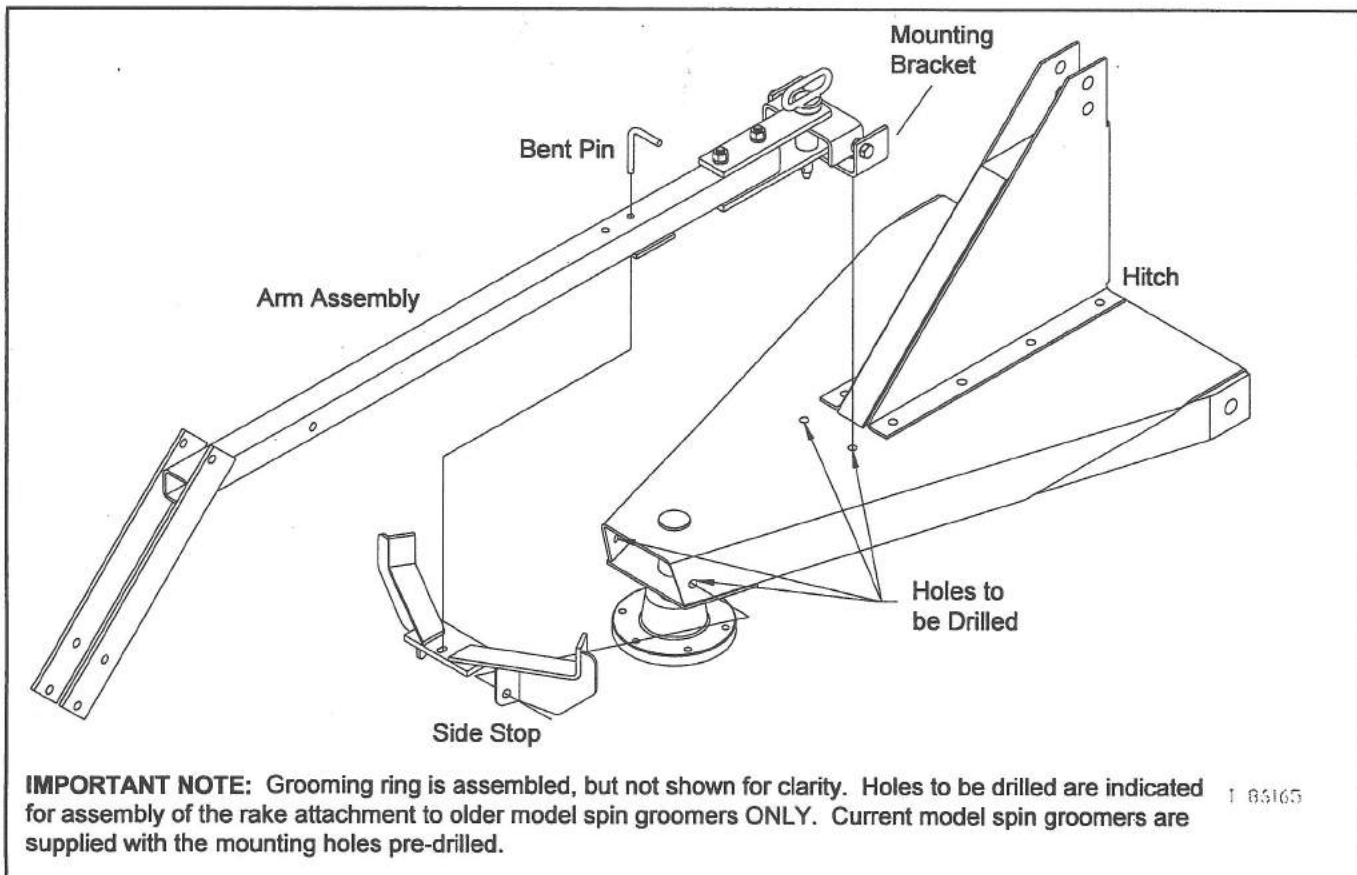

Figure 2D - Attaching the Rake to the Spin Groomer
1. Position the rake attachment side stop bracket on top of the spin groomer hitch as indicated in Figure 2D. Align the key on the side stop bracket with the back edge of the hitch. Ensure that the side stop bracket is centered for proper installation.
2. **For Field Drilling ONLY:** Mark two holes for drilling (one on either side) of the spin groomer hitch as shown in Figure 2D. Wearing safety glasses, drill the holes using a 1/2" bit.
4. Position the rake attachment arm assembly over top of the spin groomer. Install the bent pin (safety latch pin) into the first hole in the arm assembly and slide down through the hole in the side stop bracket as indicated in Figure 2D. Doing so centers and holds the rake in its safety position (i.e. for transportation).
5. **For Field Drilling ONLY:** Using the holes in the rake mounting bracket as a guide, mark the final two holes for drilling as indicated in Figure 2D, just in front of the spin groomer mast. Wearing safety glasses, drill the holes using a 1/2" bit.